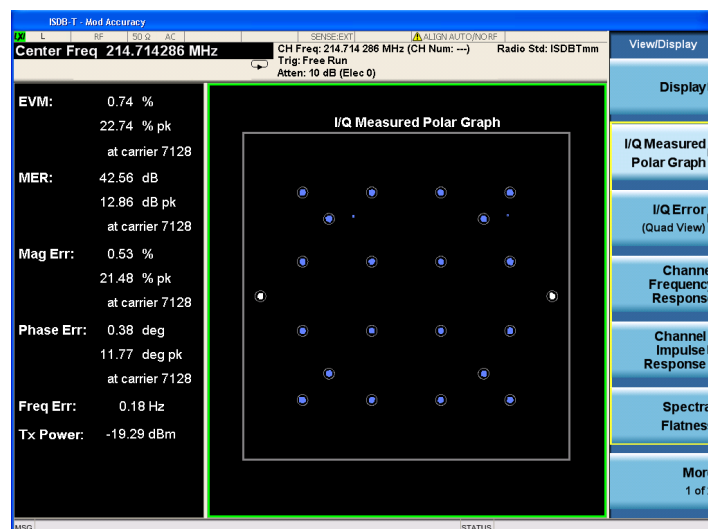

Figure 20. I/Q measured polar graph view for ISDB-Tmm signals
View the I/Q measured polar graph results (Figure 20)	[View/Display] {I/Q Measured Polar Graph}
- I/Q measured polar graph view (Figure 20): A view of I/Q measured data of the specified sub-carriers